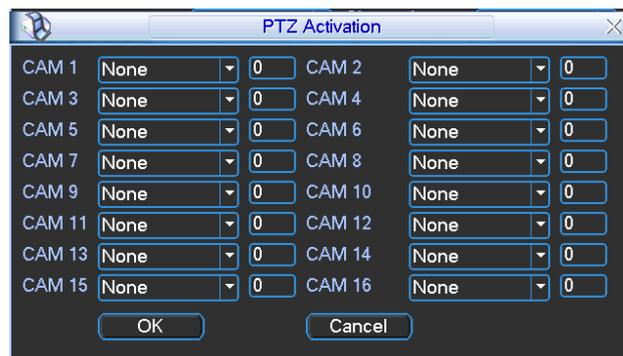

Figure 4-27
- PTZ activation: Here you can set PTZ movement when an alarm occurs. Such as go to preset, tour & pattern when there is an alarm. Click “select” button, you can see an interface is shown as in \_Figure 4-27.